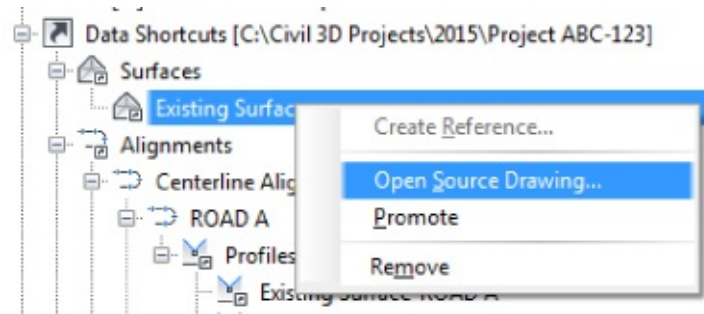

Figure 16.15 Open Source Drawing is a fast way to jump to the drawing you want.
4. Right-click Existing Surface and select Open Source Drawing, as shown in Figure 16.15.